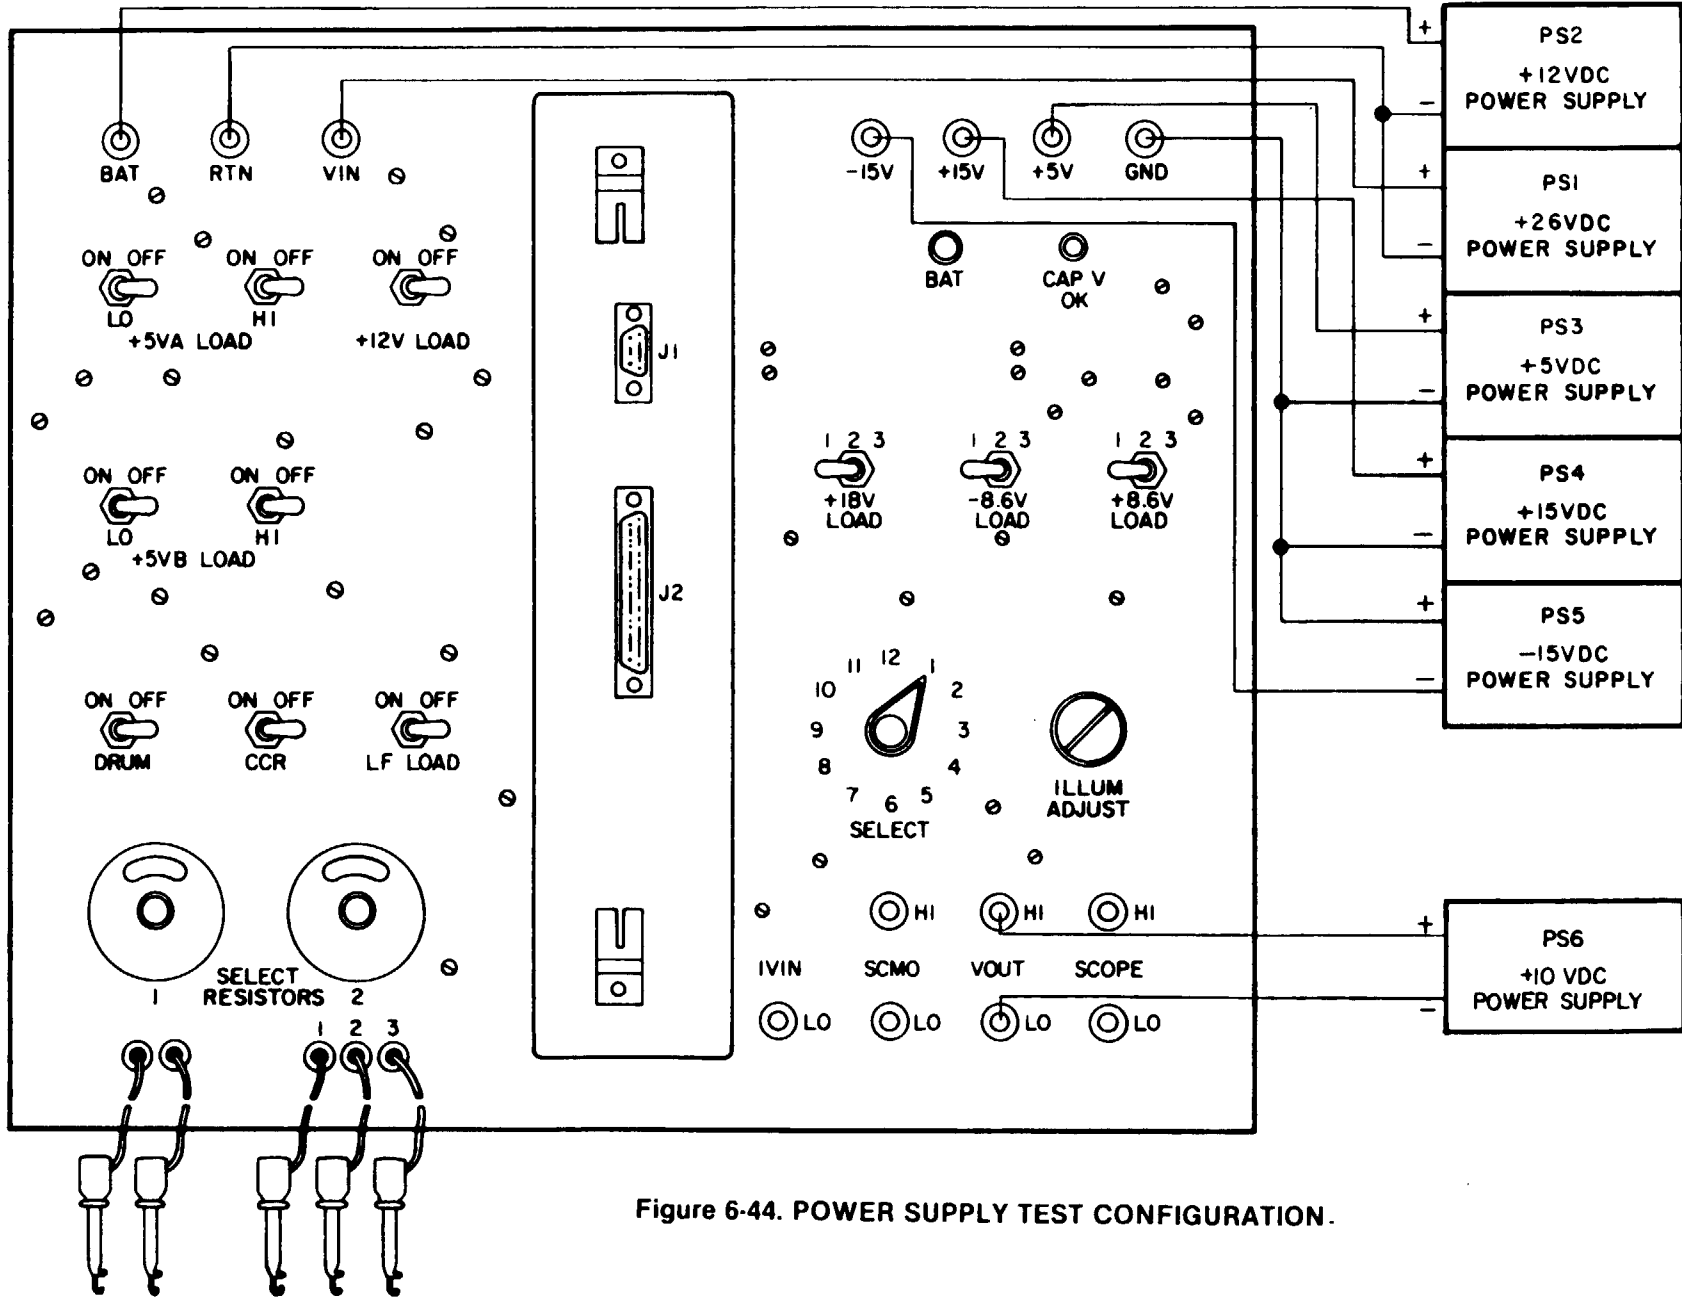

Figure 6-44. POWER SUPPLY TEST CONFIGURATION.
F. POWER SUPPLY TEST FIXTURE TEST PROCEDURES (fig. 6-44)
- Set up test fixture supplies as shown in figure 6-44.
- Observe input pin (5) of U3. Readjust R23 for 13.5 Vdc.